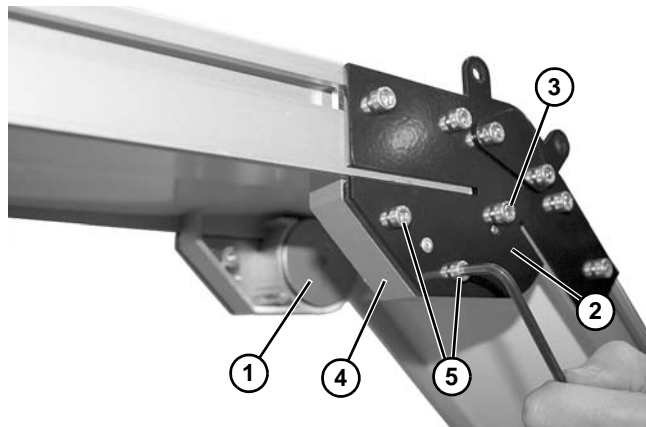

**Figure 78**
2. Orient belt so splice leading fingers (**Figure 78, item 1**) point in the direction of belt travel as identified by the conveyor directional label (**Figure 78, item 2**).